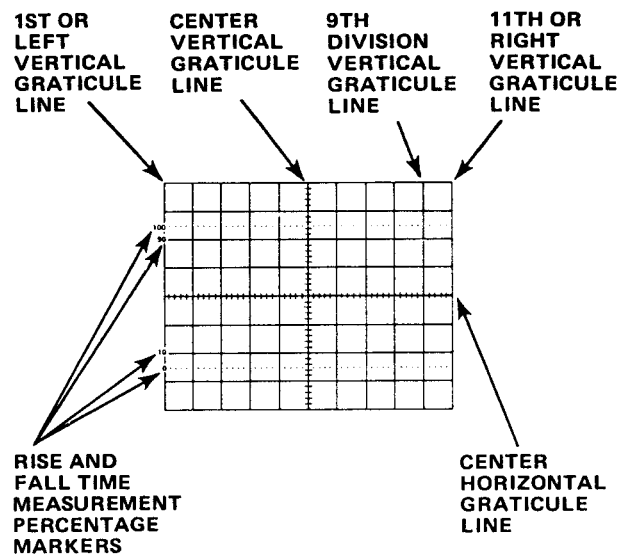

Figure 4-17 Graticule measurement markings
(1) To maintain the high frequency characteristics of an applied signal, high quality, low loss coaxial cable should be used. Also, the cable should be terminated at both ends in its characteristic impedance. If it is necessary to use cables with differing characteristic impedances, use suitable impedance matching devices.
(2) To maintain fast rise time pulse characteristics, use the shortest length of coaxial cable possible. Also, observe the cable criteria for high frequency characteristics in (1) above.
**e. Graticule.** The graticule is internally marked on the faceplate of the crt to provide accurate, no parallax measurements. The graticule is marked with eight vertical and ten horizontal major divisions. Each division is one centimeter square. In addition, each major division is divided into five minor divisions. The vertical gain and horizontal timing are calibrated to the graticule, so accurate measurements can be made from the crt. Figure 4-17 shows the graticule with its various measurement markings. The terminology shown is used throughout this manual in discussions involving graticule measurements. Note the numeric scaling markings on the left side of the graticule. These are used when making rise or fall time measurements.